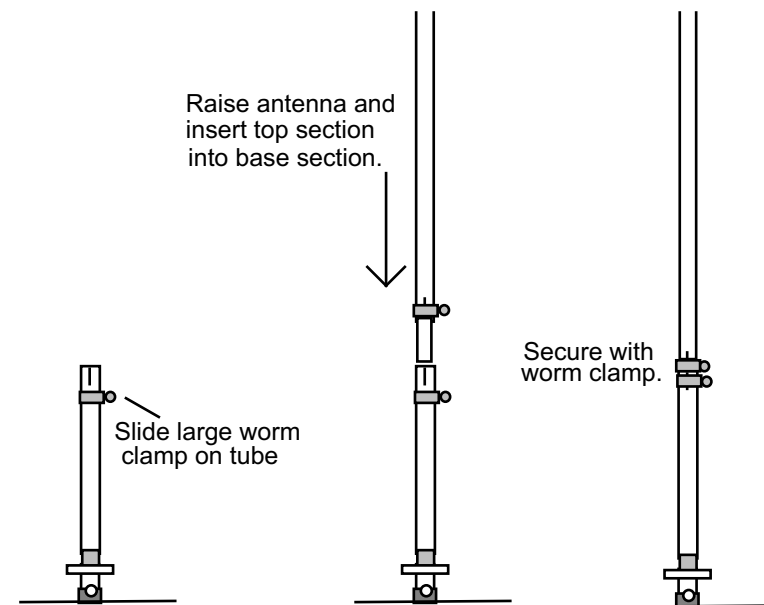

Figure-14: Raising Antenna
- [] Slip a large worm clamp on top of base section, positioning below split in tube (see **Figure-14**).